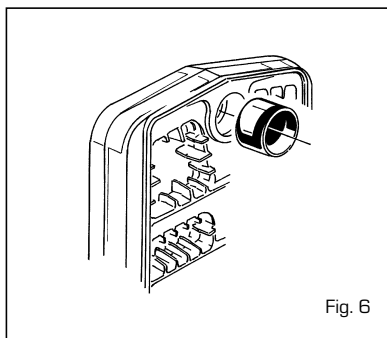

Fig. 6
- prepare one of the two intermediate sections. After lubricating them with boiled linseed oil, insert the tapered nipples (fig. 6);